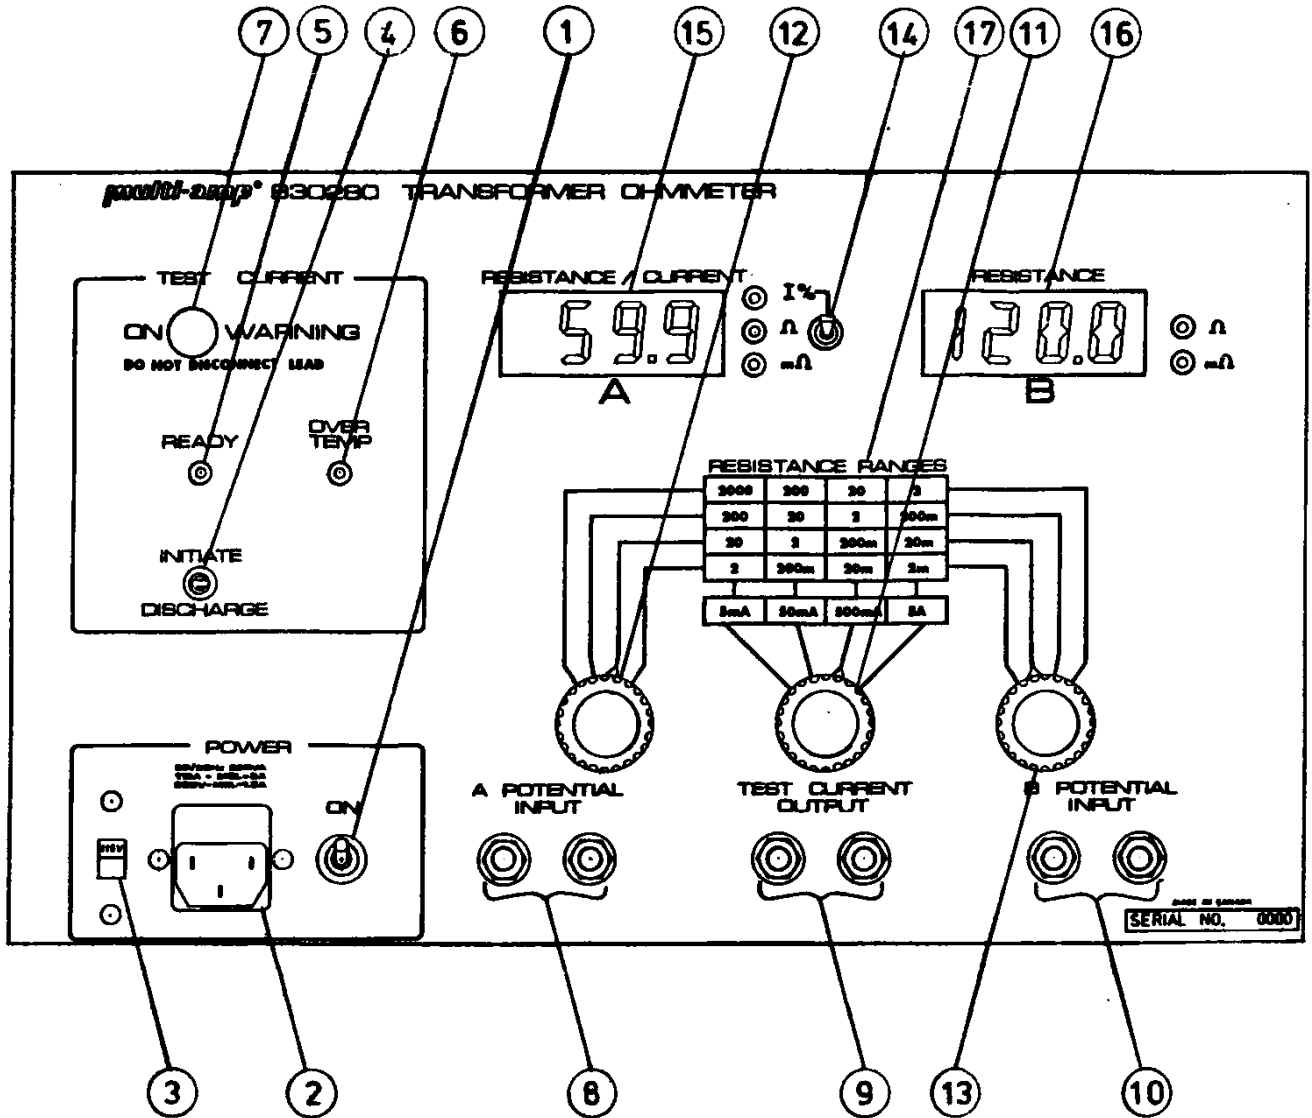

FIGURE 1: PANEL CONTROLS AND OPERATING FUNCTIONS
This section details and describes the operating functions of the Transformer Ohmmeter. Refer to Figure 1.
3.3 GENERAL OPERATING INSTRUCTIONS & INSTRUMENT SELF-CHECK (see Figure 1).